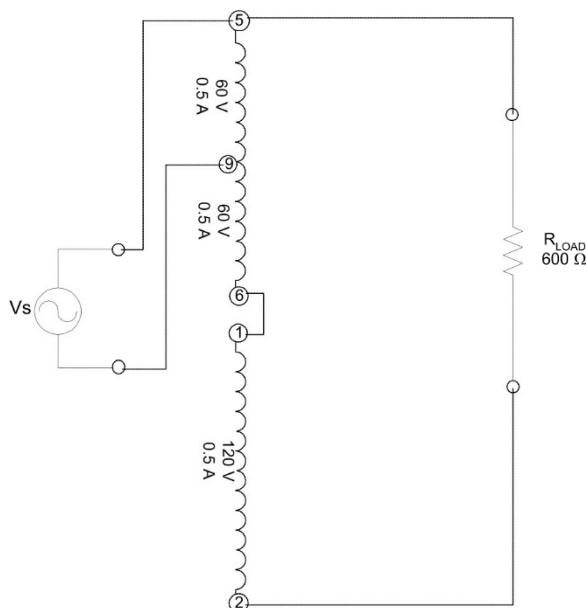
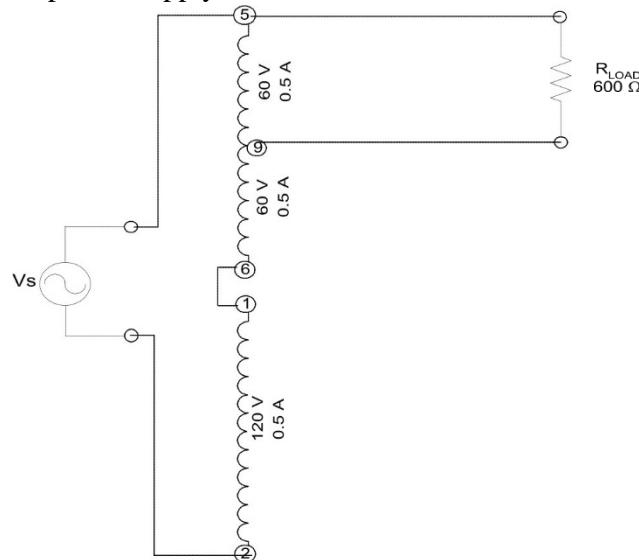

FIGURE 4.22
FIGURE 4.24
Step 1: Set up the autotransformer shown in Figure 4.22.
- Step 1: Set up the autotransformer shown in Figure 4.24.
STEP-UP Figure 4.22	STEP-DOWN Figure 4.24